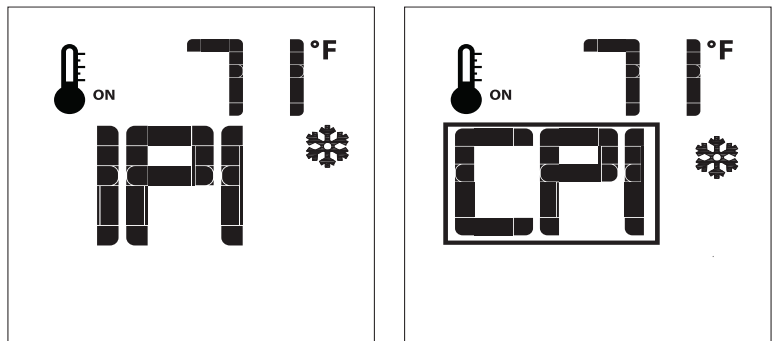

Figure 11: CPI Pilot Mode.
The Proflame 2 GTMF has six (6) flame levels. With the system on, and the flame level at the maximum in the appliance, pressing the Down Arrow Key once will reduce the flame height by one step until the flame is turned off. The Up Arrow Key will increase the flame height each time it is pressed. If the Up Arrow Key is pressed while the system is on but the flame is off, the flame will come on in the high position (refer to Figure 11). A single "beep" will confirm reception of the command.